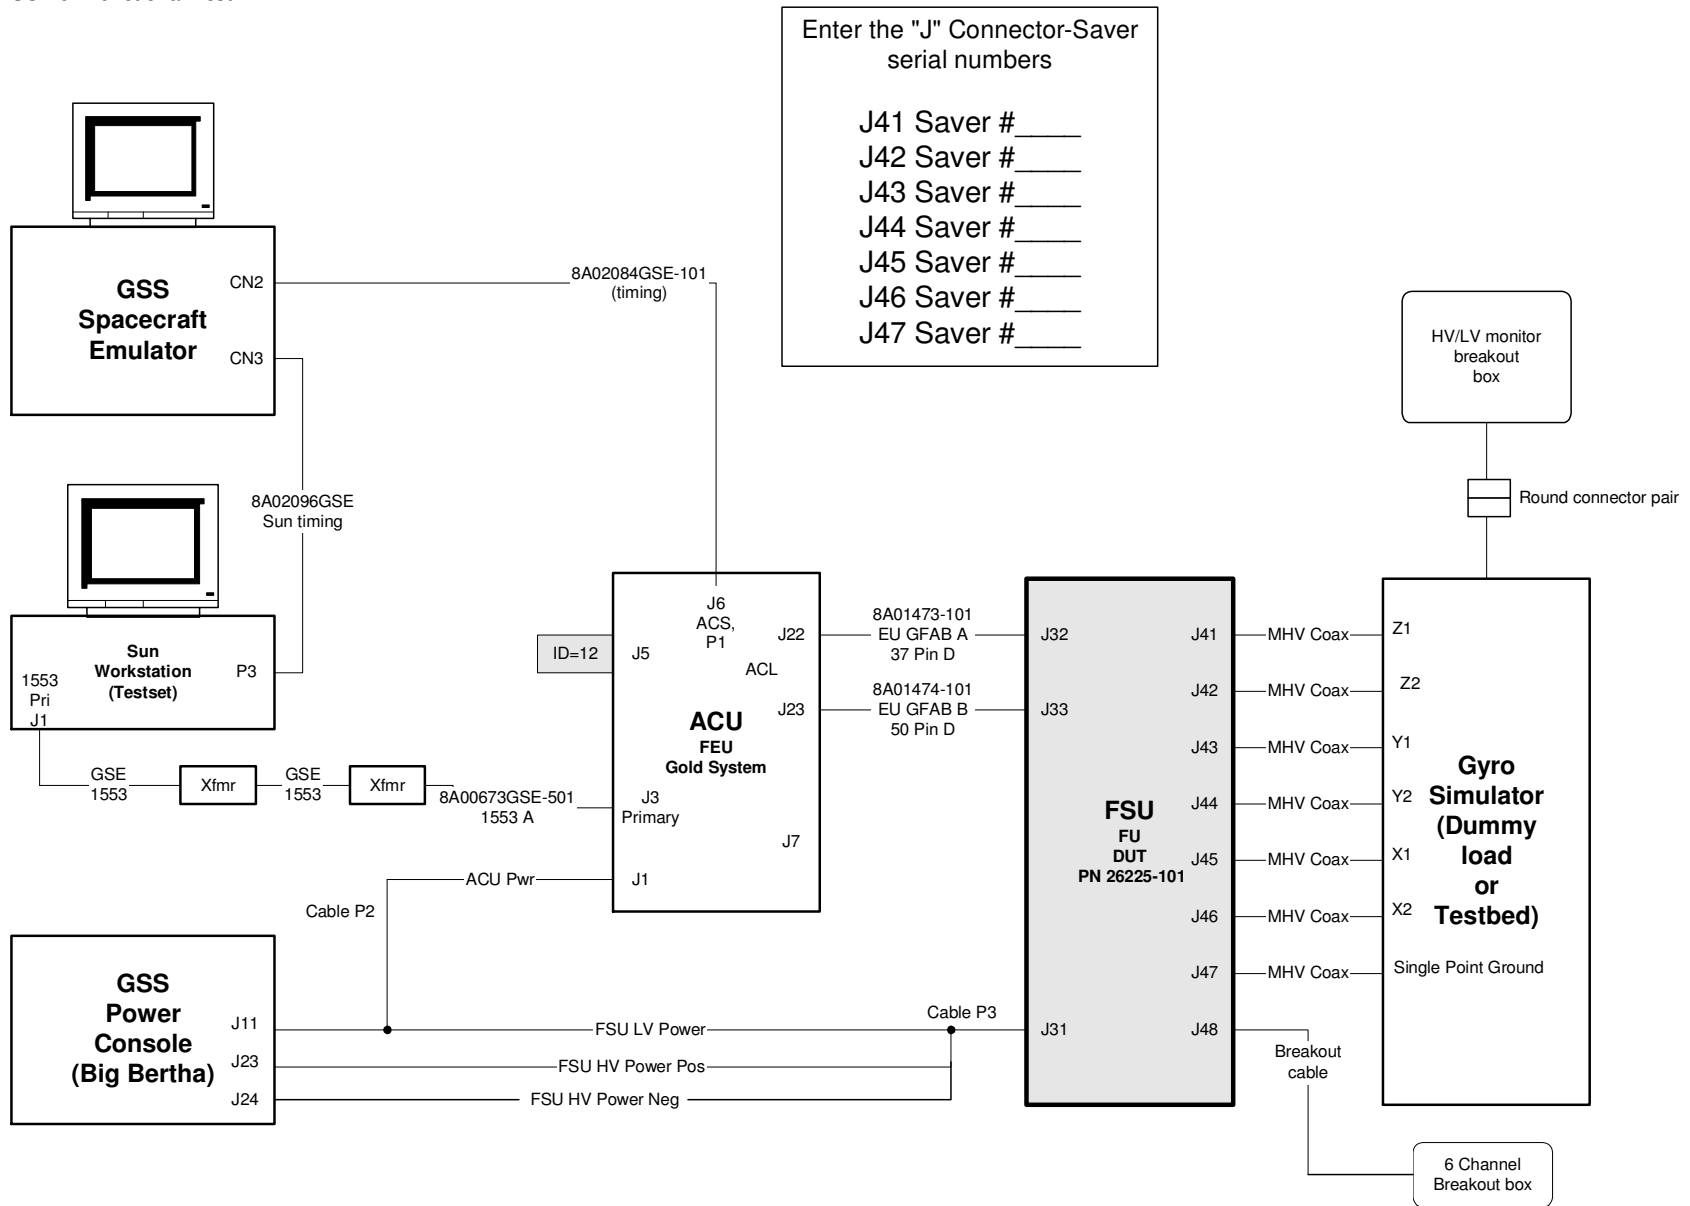

Figure 1 – GSE power connections to DUT (Option A)
14.3.2 Connect FSU (DUT) and GSE as shown in Fig. 1. Note: The computer on the Spacecraft Emulator is not required for this test.